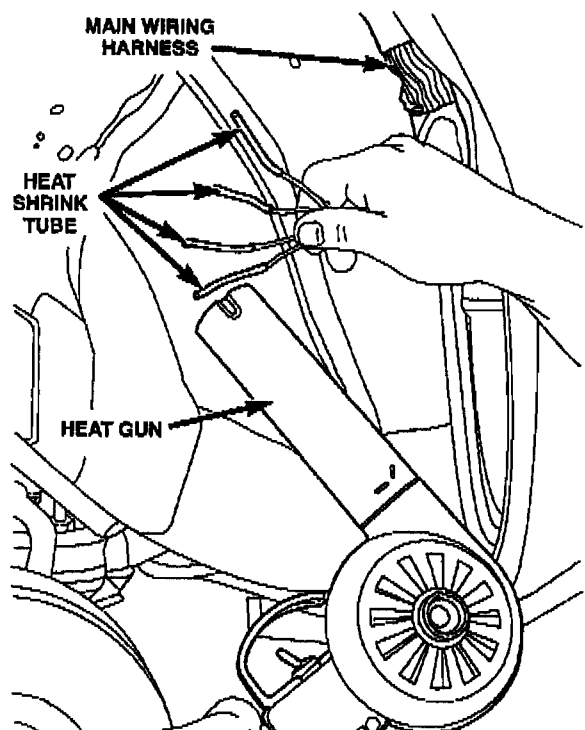

Figure 3
9. Place a piece of heat shrink tube over each individual wire end and heat the shrink tube until glue comes out of both ends of the shrink tube (Figure 3).